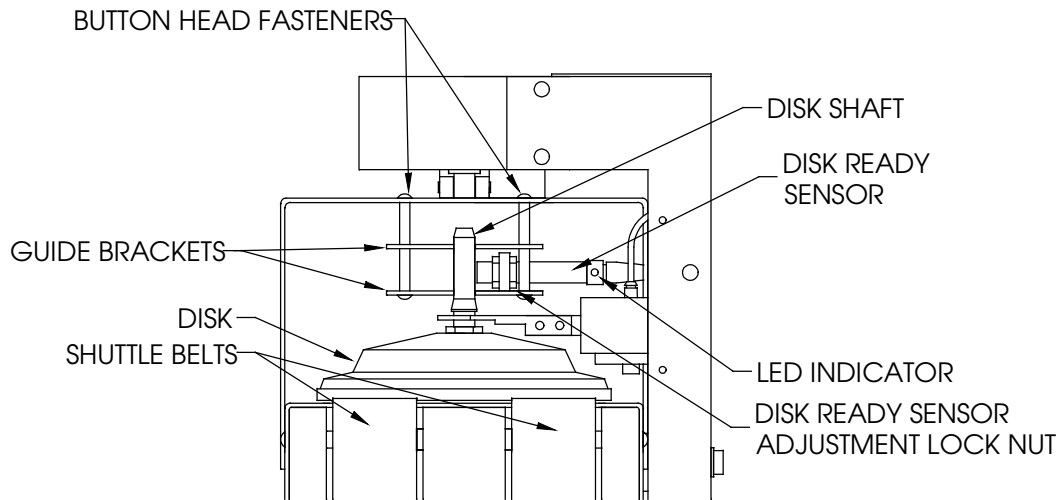

Figure 9. Disk Ready Station
The *Disk Ready Station* is located over the Shuttle Belts just prior to the Clamping Head. This station shown in Figure 9. serves two purposes. First the proximity sensor indicates that a Disk Assembly is in position and ready to be shuttled underneath the Docking Point. Second, the Guide Brackets serve to ensure that the Disk Assembly is centered on the Shuttle Belts. The position of the Disk Ready Sensor and the Guide Brackets are set at the factory, and in general should not require adjustment. However there are situations that could arise where the Disk Ready Station may need adjustment:
1. Loosen the Disk Ready Sensor Adjustment Lock Nut which holds the Sensor shown in Figure 9.
1. Loosen the Button Head Fasteners located on top of the Disk Ready Station (see Figure 9). This will allow the Guide Brackets to move laterally in the slotted holes of the Disk Ready Bracket.
1. Check the height of the Disk Ready Station to ensure that both of the Guide Brackets are aligned with the straight portion of the Disk Shaft (as shown in Figure 9), and not on the tapered end.